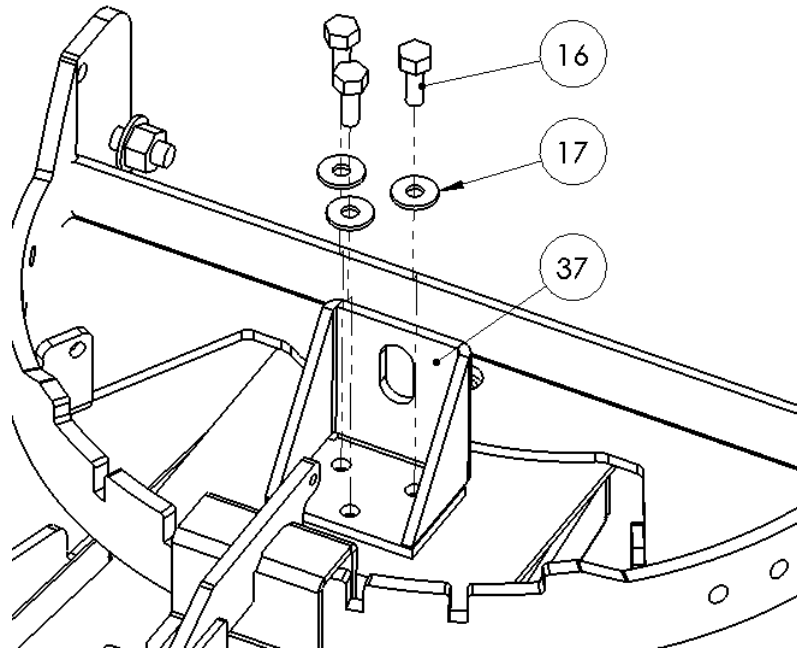

Figure 10
10) Install the Winch Attachment Bracket (#37) using the 3/8" Bolts (#16) and Washers (#17). (Figure 10)